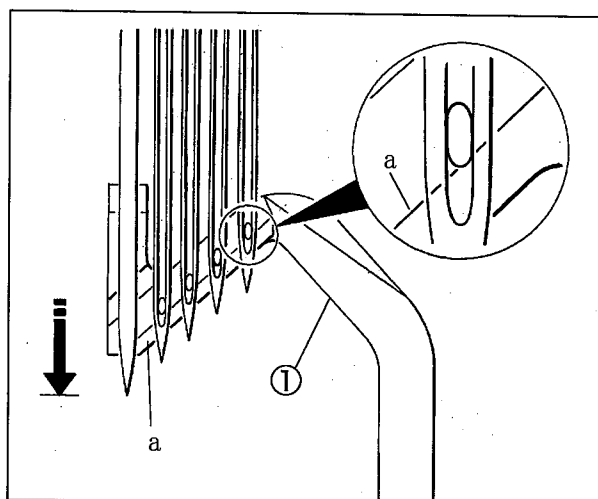

Fig. 21
When the needle is at the lowest point, Align the line "a" on the needle guard(rear)① at the lower part of needle eye of the extreme right needle.(Fig. 21)